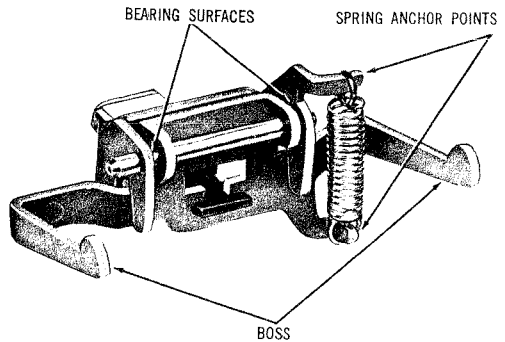

Fig. 2 — Line Switch Assembly
- 3.10 To eliminate any binding or squeaking, clean bosses on operating bracket arms, spring anchor points, operating brackets, shaft bearing points, and pins with a KS-2423 cloth moistened with KS-7860 petroleum spirits. Lubricate bearing surfaces (Fig. 2) with a No. 2 or softer graphite pencil.